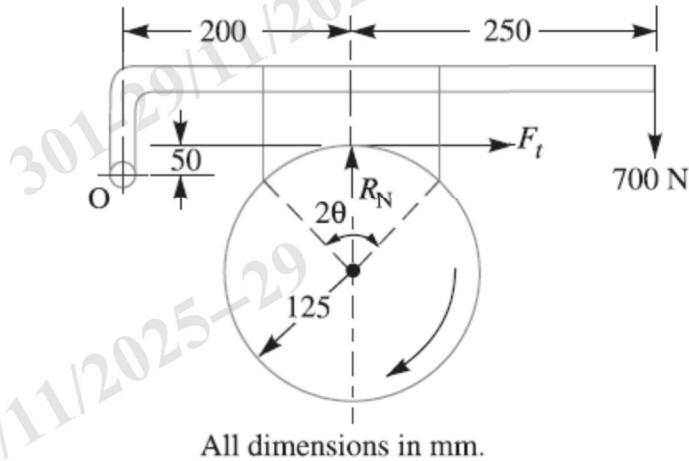

Fig. 1
j) A single block brake is shown in Fig. 1. The diameter of the drum is 250 mm and the angle of contact is  $90^\circ$ . If the operating force of 700 N is applied at the end of a lever and the coefficient of friction between the drum and the lining is 0.35, determine the torque that may be transmitted by the block brake.